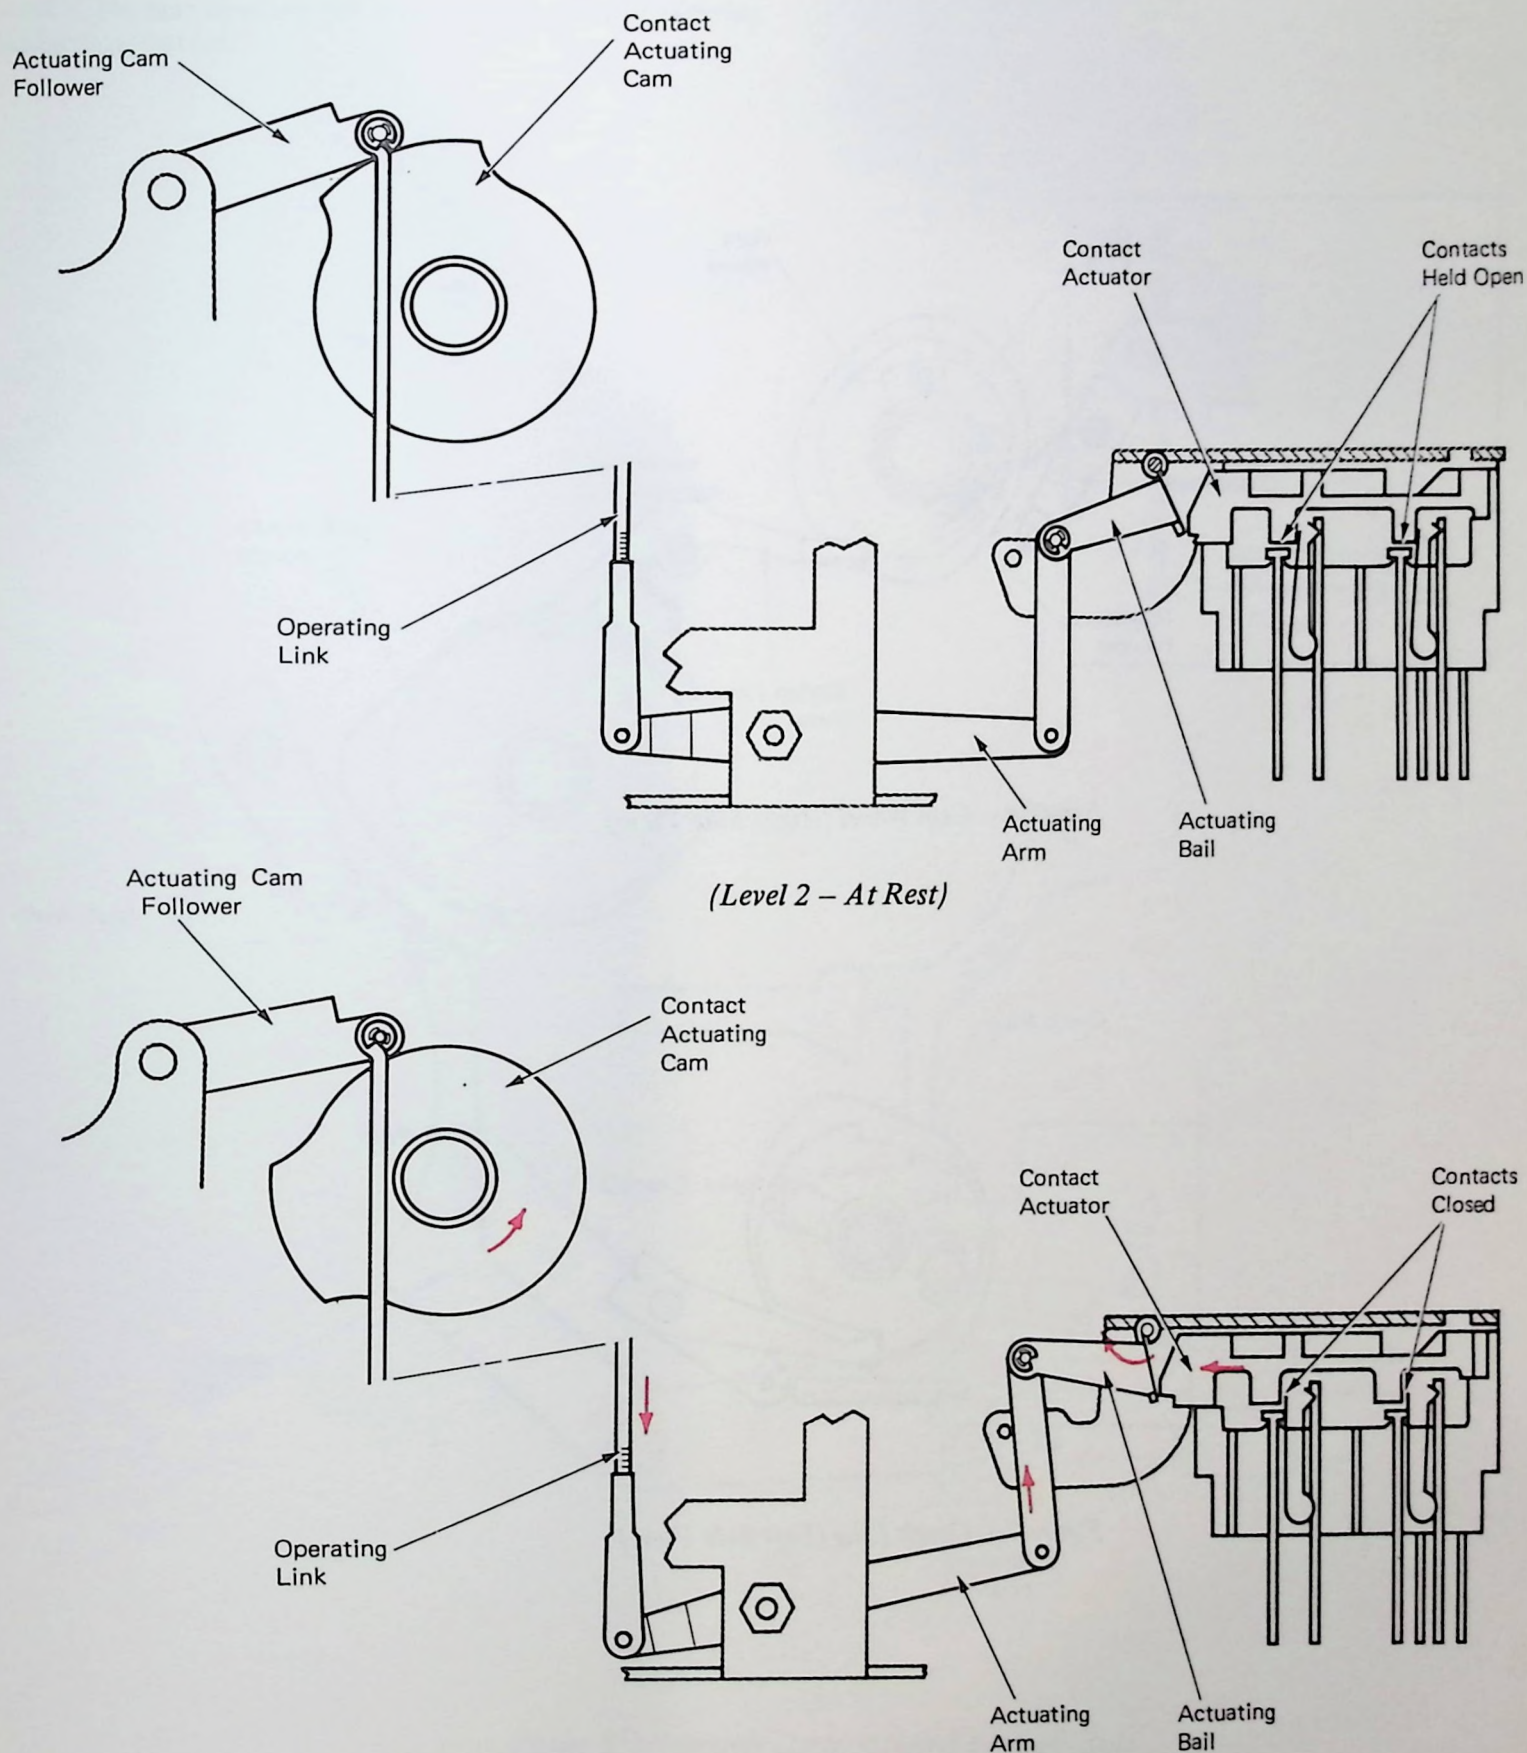

Figure 5 - Transmit Contacts Operated (Level 2 - Right Side View)
2. A contact actuating cam is mounted on the side of each operational cam. Whenever an operational cam rotates, the contact actuating cam also turns (Figure 5). At rest, the actuating cam followers are at the high point of the actuating cams. As the operational cam begins to turn, the actuating cam follower will travel to the low point of the actuating cam. The operating link will move down causing the rear of the actuating arm to move up.